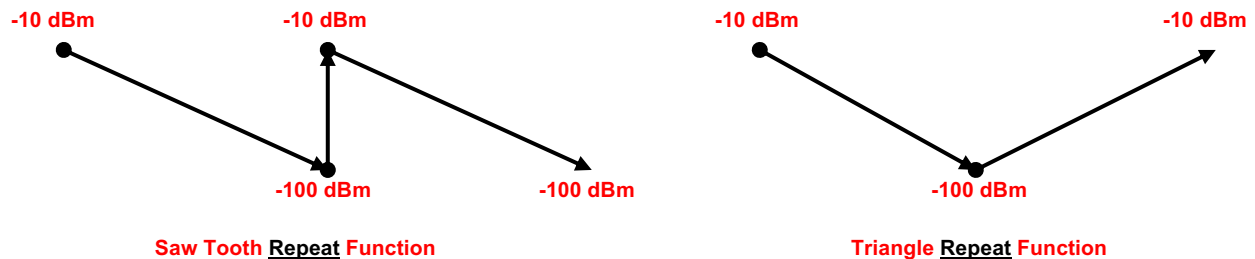

Figure 4-86
Both RF output amplitude and frequency can be set up with selected overall range, step size and dwell time per step. A repeat feature allows the user to repeat these auto step functions. Each of these features is described in subsequent paragraphs and illustrated in Figures 4-86 and 4-87.
- C. **Repeat** - The **Repeat** feature is a pull-down menu feature which allows the step function to be a one-time occurrence by selecting **Single (none)**, or as a repeat **Saw Tooth** or **Triangular** pattern. Figure 4-86 shows how this **Repeat** function works.